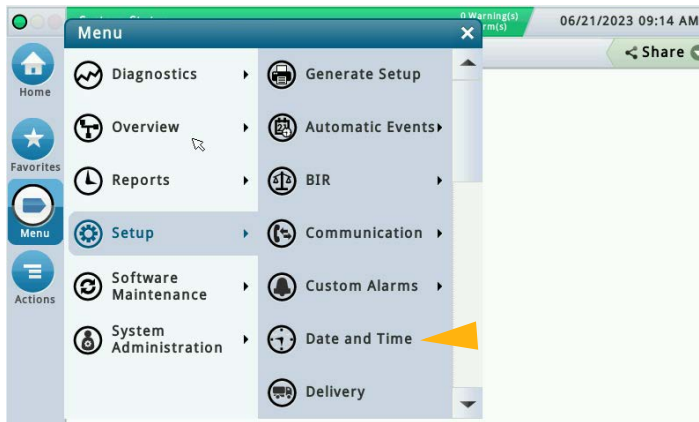

Figure 10. Select Date and Time Setup Screen
1. Go to Menu>Setup>Date and Time (see Figure 10). Select Date and Time.